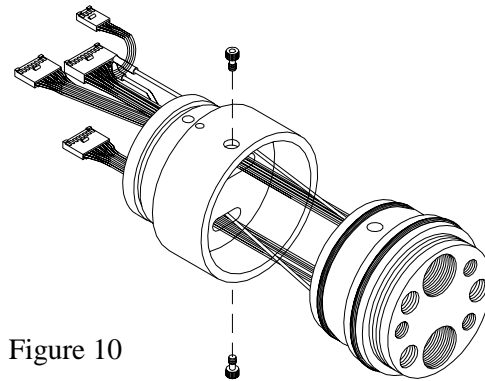

Figure 10
1. Remove the two 8-32 cap screws that attach the depth module to the bulkhead. See *Figure 10*.
3. Insert the bulkhead into the depth module while slowly rotating the bulkhead 5-10° until it is both fully seated and the bulkhead's threaded inserts align with the holes in the module. See figure 10.